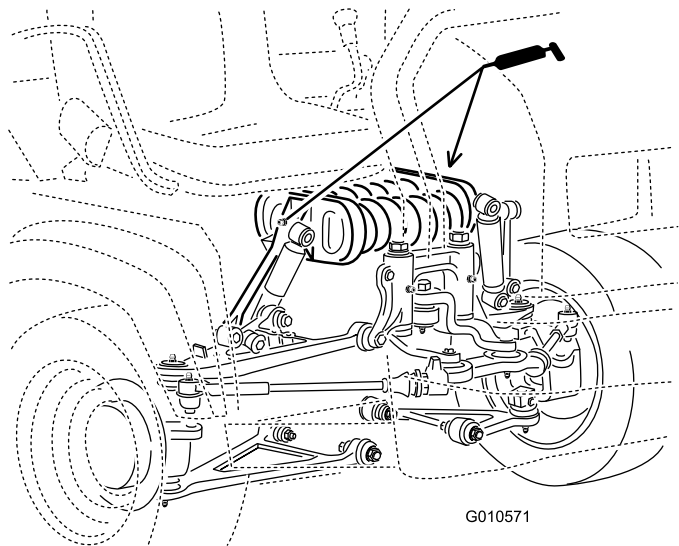

Figure 37
- **Spring tower (2)**; refer to Figure 37